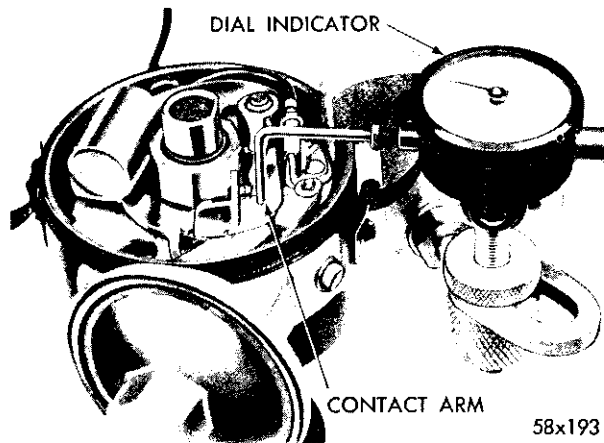

Fig. 37—Checking Point Clearance with Indicator
(3) After aligning the points, readjust the point clearance to the specifications using a dial indicator (Fig. 37).
(4) Check the dwell angle to show proper degree of closure. See Paragraph 65, "Distributor Point Dwell". The lock screw should be loosened just enough so that the stationary point can be moved with a slight drag; otherwise, it will be difficult to set the points accurately. After setting the points to correct the clearance, tighten the lock screw.